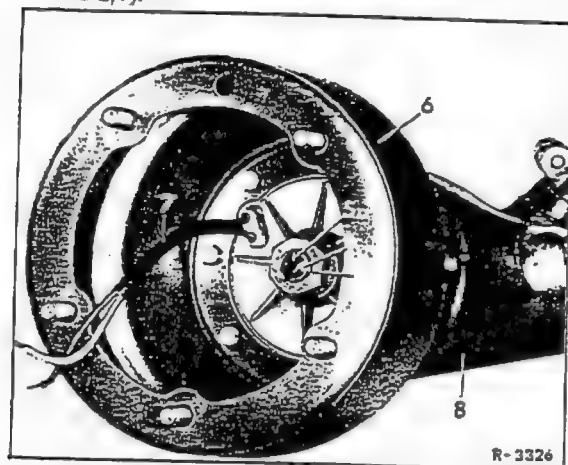

Fig. 46-2/6
5. Unscrew countersunk tapping screws (10) from the steering wheel, then remove centering bottom (11) and contact ring (12) (Fig. 46-2/7).
6. Remove horn ring (3) from steering wheel (Fig. 46-2/7).